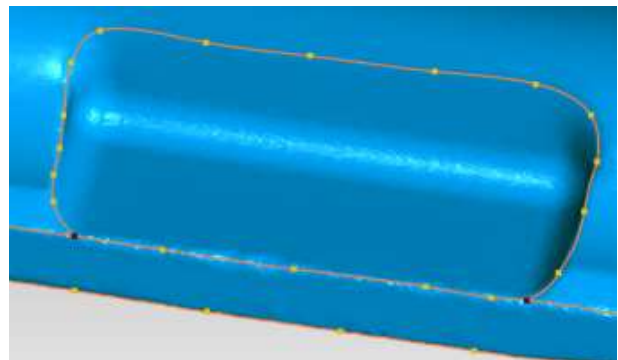

Figure 113 - After Curve Editing
3. Hover over each of the endpoints and control points until a **selection box** appears and **click/drag** to **move** each point to the new locations as shown in **Figure 113**.